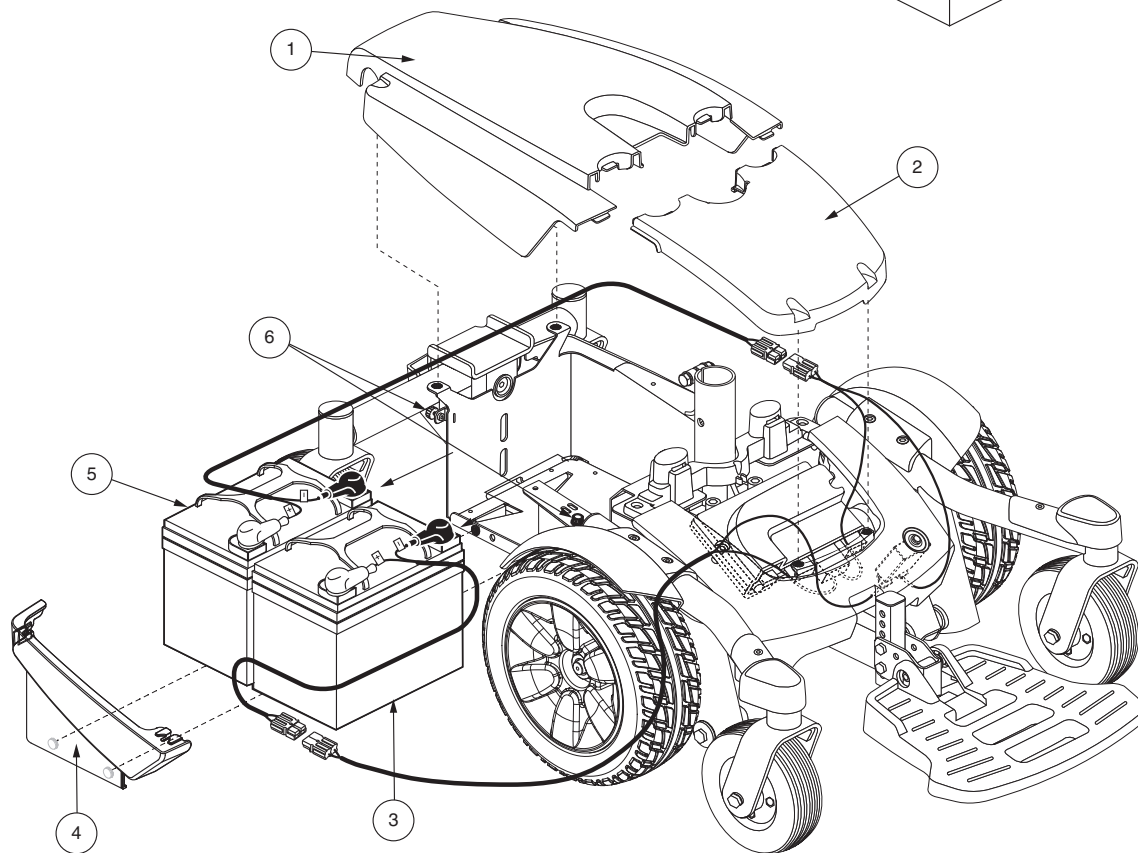

Figure 24. Battery Installation (Seat Removed for Clarity—Select 6 Shown)
3. Remove the rear shroud. See figure 24.
5. Disconnect the rear battery harness from the power base. See figure 24.
8. Disconnect the front battery harness from the power base. See figure 24.
10. Remove the battery harnesses from the old batteries and install them onto the new batteries. Make sure that the hardware is facing the correct direction. See figure 24.
11. Place the front battery into the power base. Make sure that the terminals are facing the front of the power base. See figure 24.
14. Place the rear battery onto the power base. Make sure that the terminals are facing the front of the power base. See figure 24.